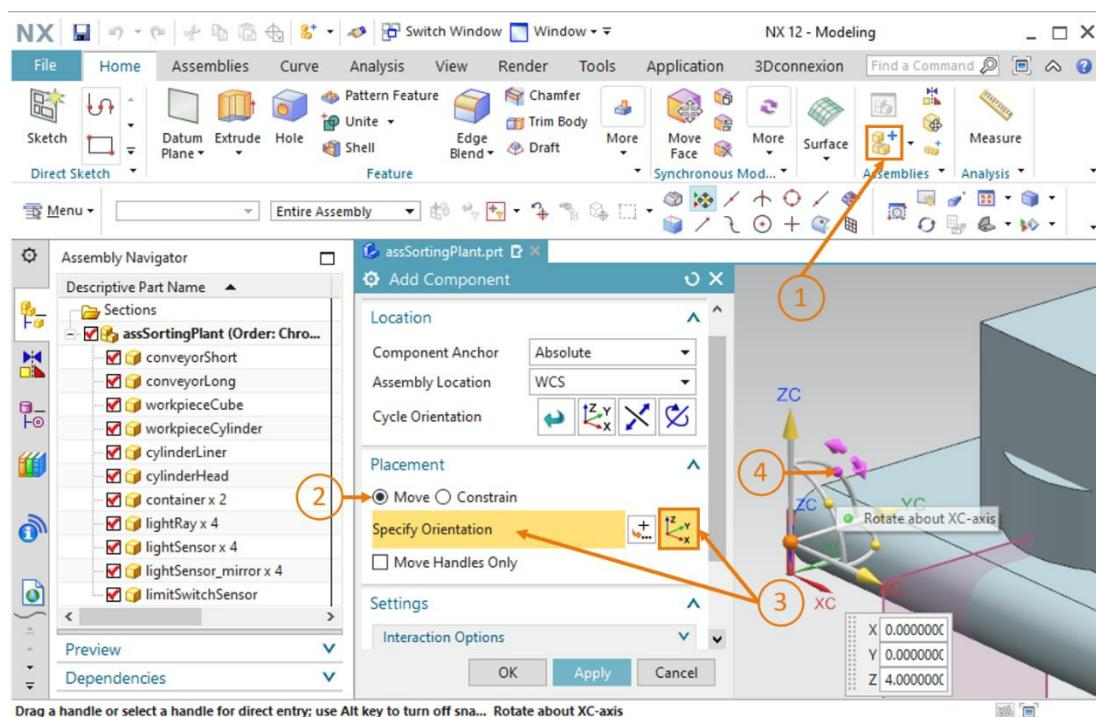

Figure 86: Rotating the "limitSwitchSensor" component – Selecting the rotation axis
- Open the window for adding a new component (see Figure 86, step 1). Select your "limitSwitchSensor" model in the "Part To Place" submenu.
- The "limitSwitchSensor" model is in a vertical position. Rotate it to a horizontal position instead. Select the "Move" method in the "Placement" submenu (see Figure 86, step 2) and click on "Specify Orientation" (see Figure 86, step 3). For rotating the body, select the point between the Y and Z axis in the three-dimensional graphics window, as shown in Figure 86, step 4. This allows you to rotate the component around the X axis.